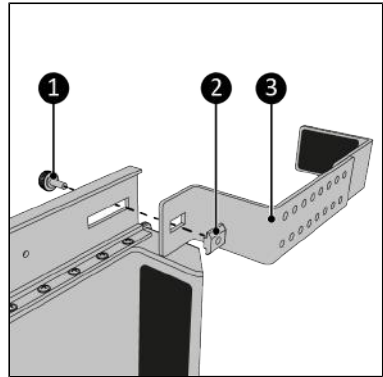

Figure 80.
7. Screw the bracket (Figure 80, pos. 3) to the main rail in the front position using the knob screw (Figure 80, pos. 1). Make sure you connect the knob screw to the slide nut (Figure 80, pos. 2).